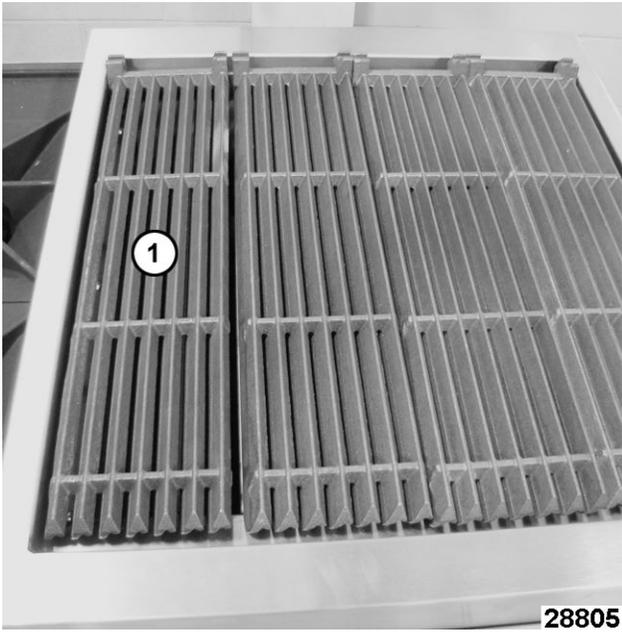

Fig. 81
1. Remove grate (1, Fig. 81) from charbroiler.